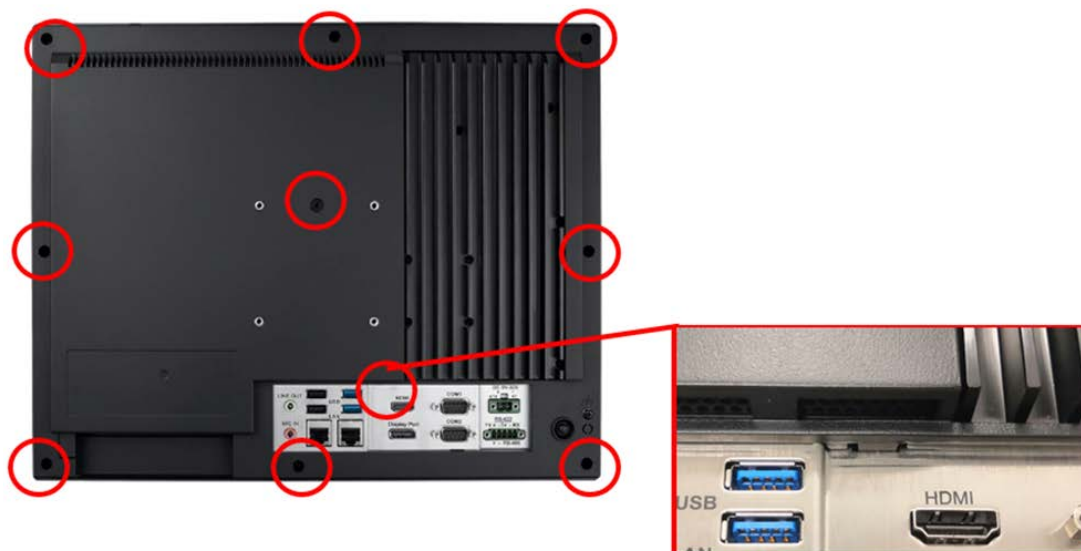

Figure 2.5
1. Remove the 9 screws (circled in red) and take out the clip from the rear cover to remove the rear cover (see Figs. 2.5 and 2.6).
1. Follow Step 1 of Section 2.3 to remove the rear cover (see Figs. 2.5 and 2.6).
1. Begin by following Step 1 in Section 2.3 to detach the rear cover of the panel PC (refer to Figures 2.5 and 2.6).